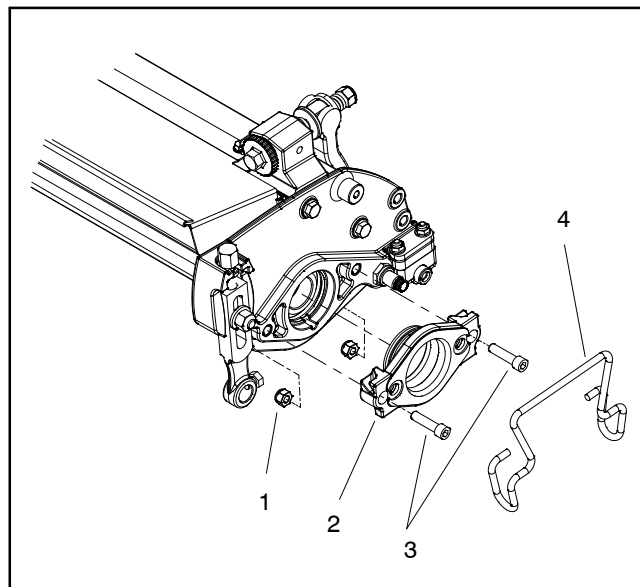

Figure 30
3. Remove reel motor adapter from cutting unit side plate using Fig. 30 as a guide.
2. Install reel motor adapter to cutting unit side plate using Fig. 30 as a guide.